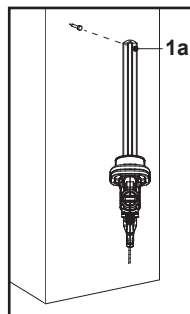

Fig. 11
3. Attach the blade cover (12) onto the cutting device (blade) (1).
5. The machine can be hung on the wall through the hanging hole on the blade tip protector (1a) (Fig. 11).